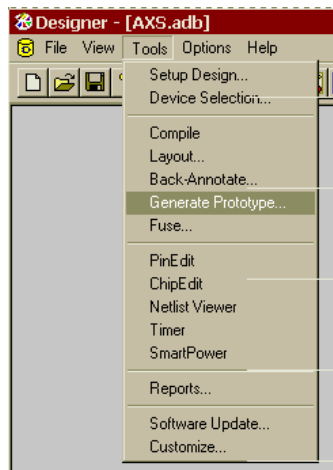
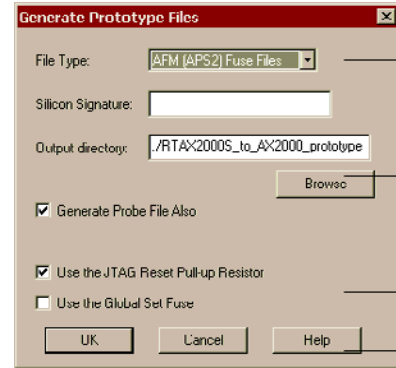

Figure 14 • Tools Menu Showing the Generate Prototype Command
Figure 15 • Generate Prototype Dialog Window
1. Using the GUI: After saving your .adb file, click on Tools, and then click on “Generate Prototype. . .” as shown on Figure 14. The dialog box in Figure 15 opens. Select your options and click OK to generate prototype .afm file.